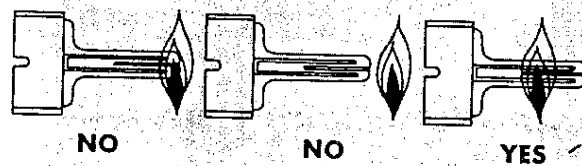

Figure 4: Ignitor Location
Proper location of the silicon carbide ignitor is important to achieve optimum system performance for both ignition and flame sensing. See Figure 4.
1. Check installation. Mount and position the ignitor per Figure 4.
7. If the system ignites but fails to "hold-in," check for proper grounding of the 24 volt circuit (the ground should be common between the module and the burner). Also check the element position per Figure 4.